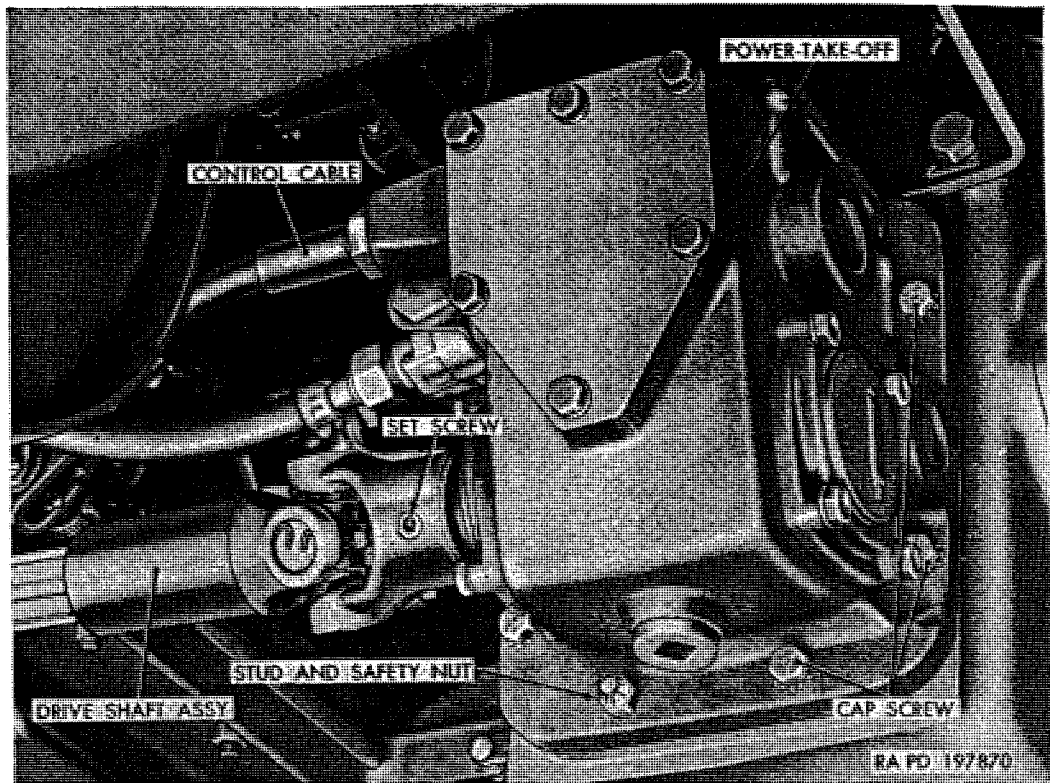
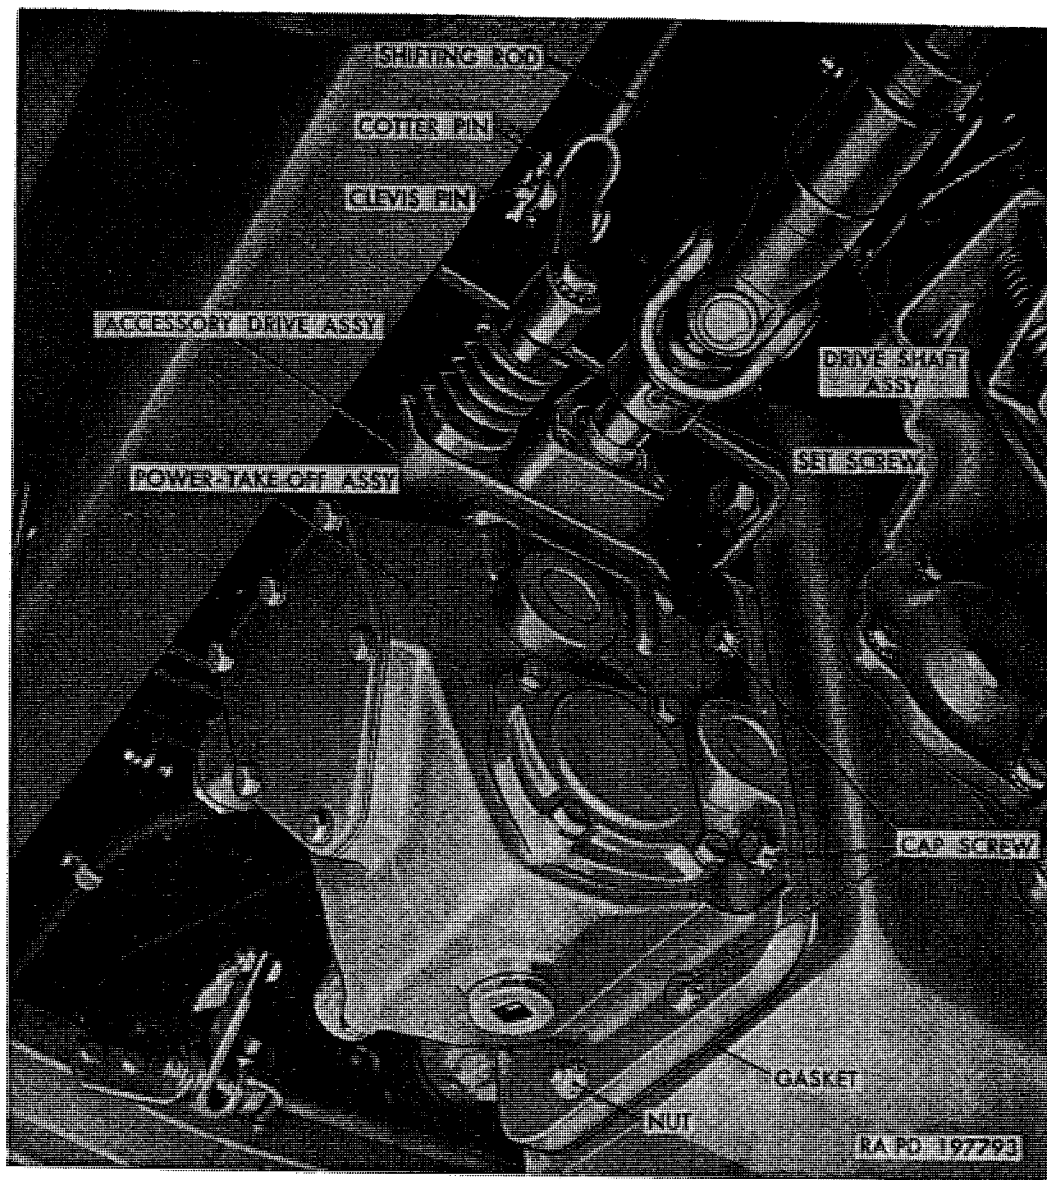
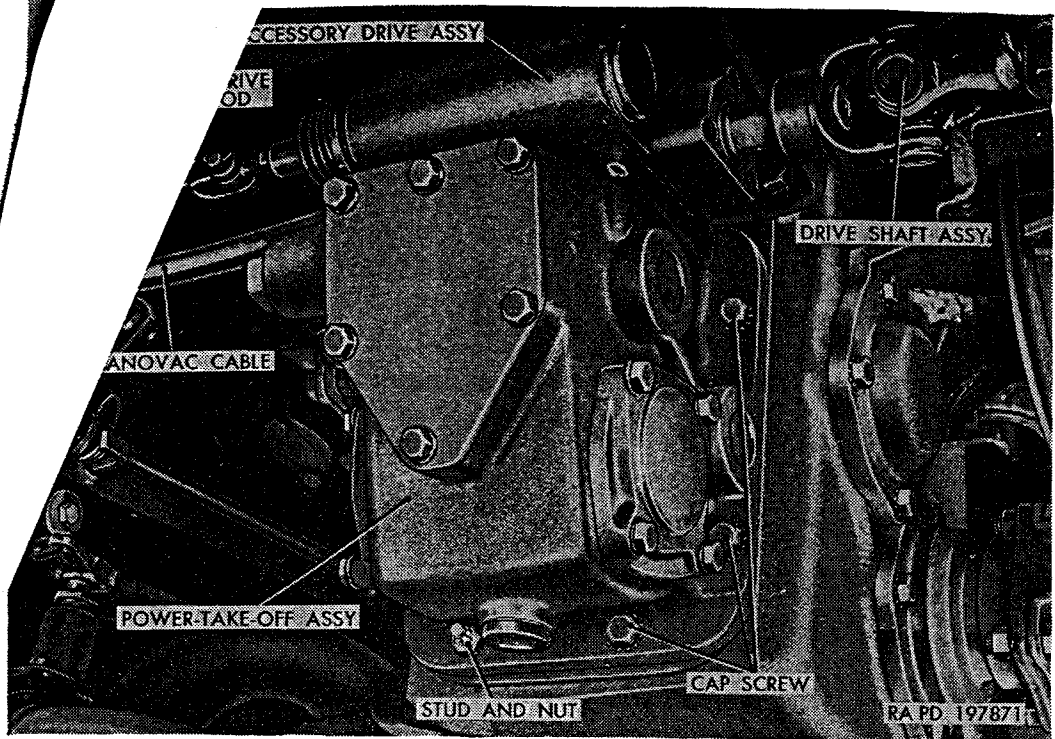

Figure 221. Power-take-off installed (winch only).
Figure 222. Power-take-off installed (dump body hoist).
Figure 223. Power-take-off installed (gasoline and water tank pump).
a. General. The arrangement of power-take-off and accessory drive assemblies are similar in their mounting and controls as illustrated in figures 221, 222, and 223. Removal procedures for each type are described in *b, c, and d* below.
b. Removal of Winch Power-Take-Off (fig. 221).
- (1) Remove plug from bottom of power-take-off to drain lubricant.
- (2) Loosen setscrew securing universal joint yoke to power-take-off shaft; then slide yoke forward to remove from power-take-off shaft.
- (3) Remove control cable from power-take-off (par. 321*b*).
- (4) Remove six cap screws and lockwashers, and two stud nuts attaching power-take-off to transfer. Remove power-take-off assembly from transfer. Remove and discard gasket.
c. Removal of Dump Body Hoist Power-Take-Off (fig. 222).
- (2) On vehicles equipped with winch, disconnect drive shaft universal joint yoke (b(2) above). Remove control cable from power-take-off (par. 321b).
- (3) Remove setscrew securing hoist pump drive shaft yoke to accessory drive assembly; then slide yoke rearward to remove from shaft.
- (4) Remove cotter pin and clevis pin attaching shifting rod to accessory drive shifter shaft.
- (5) Remove six cap screws and lockwashers, and two stud nuts attaching power-take-off to transfer. Remove power-take-off from transfer. Remove and discard gasket.
- d. *Removal of Tank Body Pump Power-Take-Off* (fig. 223).
- (2) Remove pump front propeller shaft (par. 345b).
- (3) Remove cotter pin and clevis pin; then remove shift rod at accessory drive shift shaft.
- (4) Remove nut attaching Mechanovac governor control cable to accessory drive assembly; then remove cable.
b. Installation of Winch Power-Take-Off (fig. 221).
- (1) Position two new gaskets over studs and against transfer. Position power-take-off over two studs and against transfer. Install one $\frac{3}{8}$ -24 nut on each of the two studs. Install six $\frac{3}{8}$ -16 x $1\frac{1}{8}$ cap screws and $\frac{3}{8}$ -inch lockwashers. Tighten stud nuts and cap screws evenly and alternately.
- (2) Fill transfer with lubricant as directed in paragraph 207*c*.
- (3) Install control cable (par. 321*c*).
- (4) Install $\frac{1}{4}$ x 1 woodruff key in power-take-off shaft keyway. Install rear universal joint on splined rear shaft; then slide joint rearward and onto power-take-off shaft, alining keyway
c. Installation of Dump Body Hoist Power-Take-Off (fig. 222).
- (1) Install power-take-off (b(1) above); then fill transfer with lubricant as directed in paragraph 207c.
- (2) On vehicles equipped with winch, connect drive shaft universal joint to power-take-off (b(4) above). Connect control cable (par. 321c).
- (3) Connect shifting rod to accessory drive shift shaft, using $\frac{1}{2}$ x $1\frac{3}{64}$ clevis pin and $\frac{1}{8}$ x $\frac{7}{8}$ cotter pin.
- (4) Install one $\frac{1}{4}$ x $\frac{7}{8}$ woodruff key in accessory drive shaft. Aline drive shaft yoke keyway with drive shaft key; then tap yoke with soft hammer until in position on shaft. Install and tighten a $\frac{3}{8}$ -16 x $\frac{1}{2}$ socket-head setscrew which attaches yoke to shaft. Prick punch head of setscrew to prevent loosening.
d. Installation of Tank Body Pump Power-Take-Off (fig. 223).
- (1) Install power-take-off (b(1) above); then fill transfer with lubricant (par. 207c).
- (2) Connect shifting rod to accessory drive shift shaft eye, using $\frac{3}{8}$ x $\frac{15}{16}$ clevis pin and $\frac{3}{32}$ x $\frac{5}{8}$ cotter pin.
- (3) Insert end of Mechanovac governor control cable into opening in accessory drive; then tighten retaining nut.
- (4) Install pump front propeller shaft as directed in paragraph 345c.